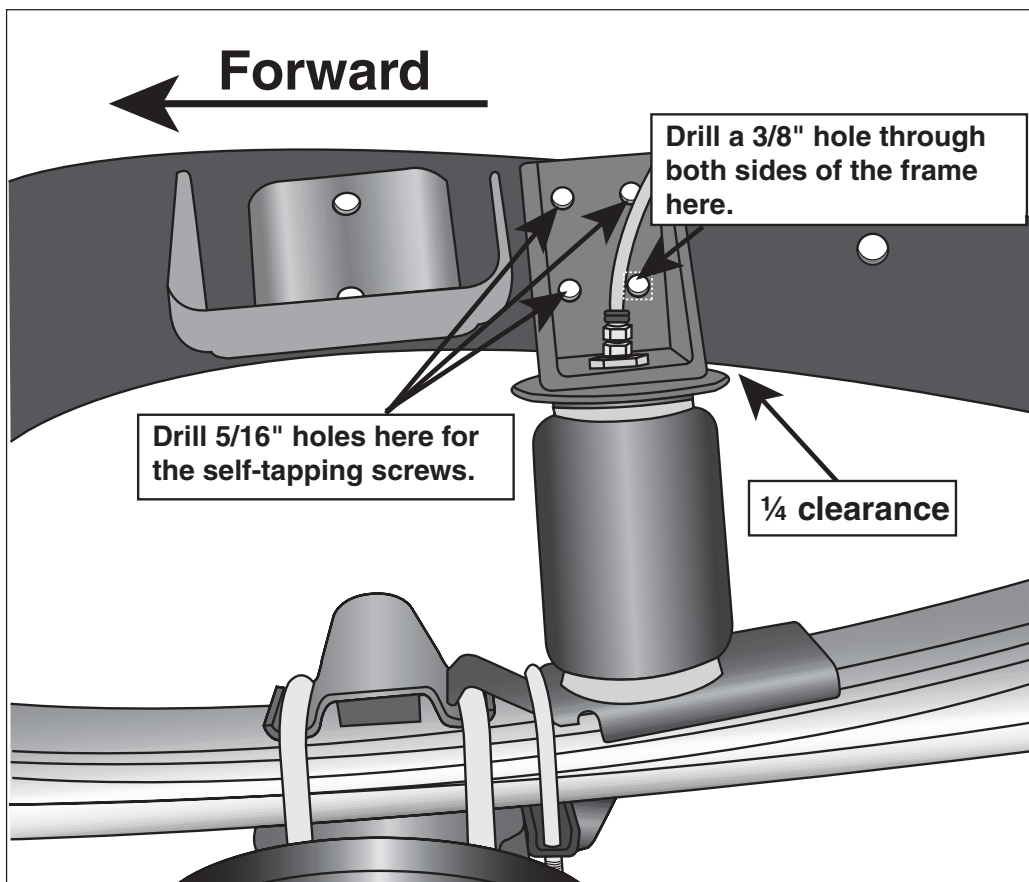

Figure 4
4. Ensure that there is at least 1/4" clearance between the roll plate and the closest part of the frame (Figure 4). The closer space will be rearward of the sleeve assembly.
6. Using the upper bracket as a template, mark any one of the holes on the upper bracket except the bottom rear hole (Figure 4).